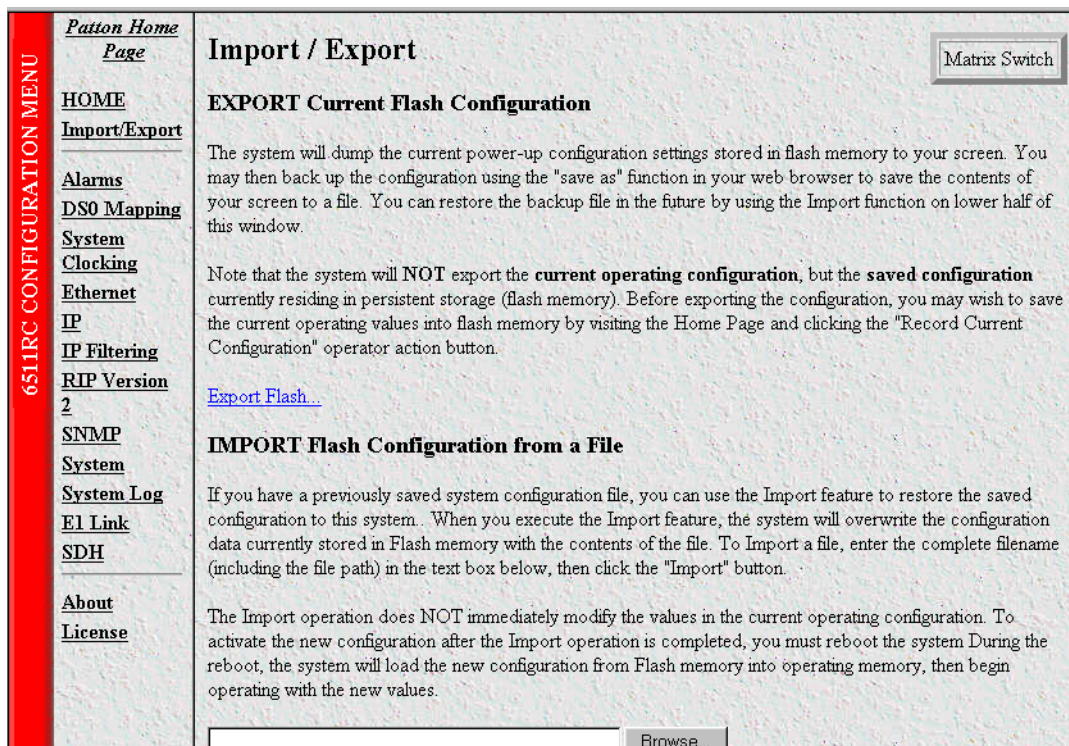

Figure 57. Import/Export page
1. On the *6511RC Configuration Menu* (see figure 27 on page 48), click the *Import/Export* hyperlink to display the *Import/Export* page (see figure 57).